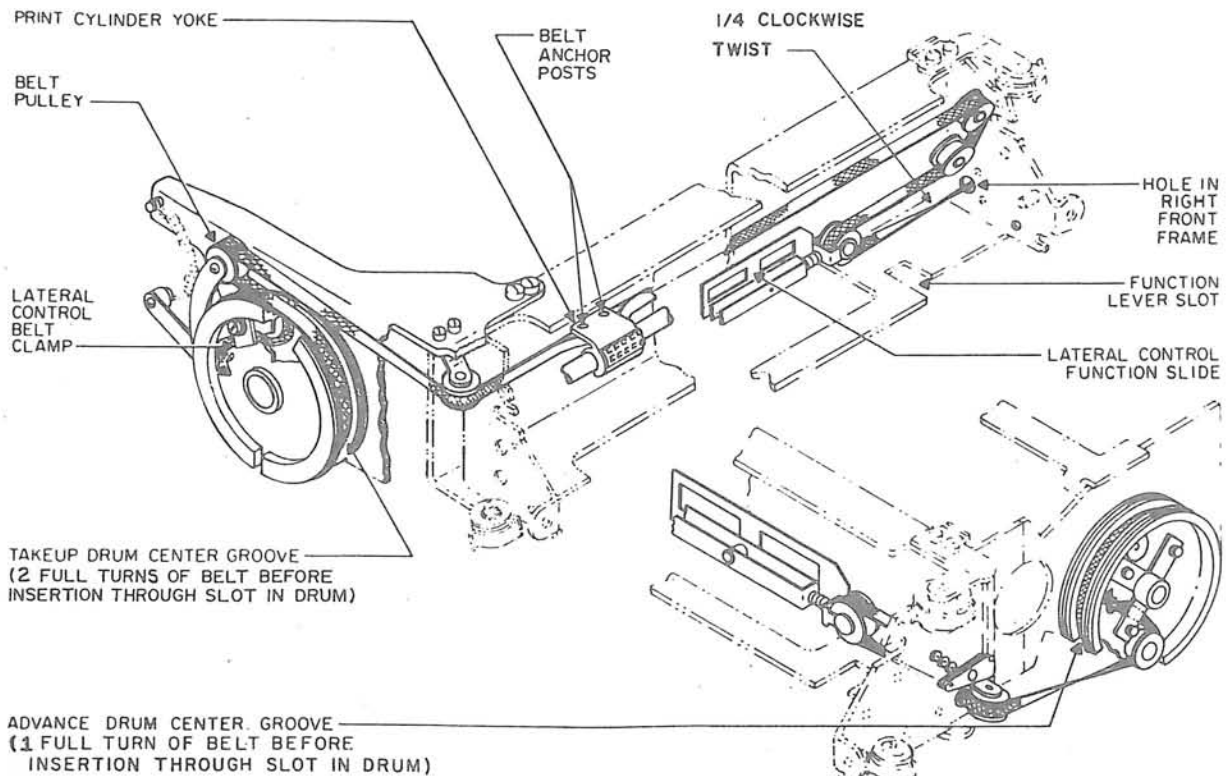

Figure 5-17. Two Piece Lateral Control Belt Replacement, Belt Threading Diagram
(2) TWO PIECE LATERAL CONTROL BELT REPLACEMENT.
- Step 3. Loosen lateral control belt clamp on advance drum (Figure 5-17).